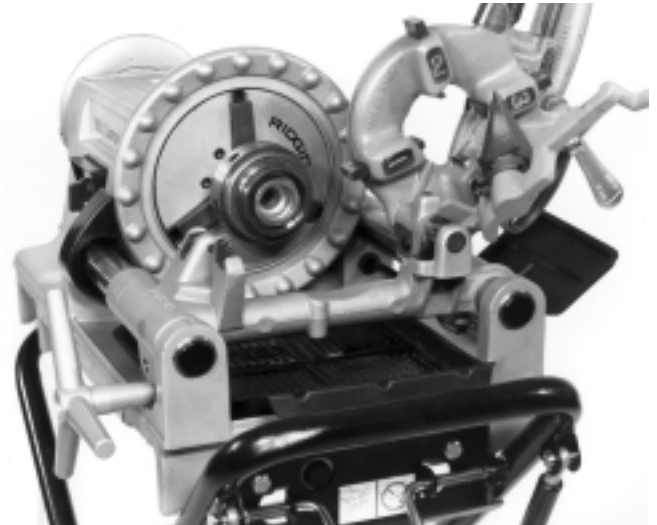

Figure 15 – Place Nipple Chuck Body in Power Drive
2. Place nipple chuck body (Figure 15) in Threading Machine chuck, gripping jaw grooves. Tighten chuck with snap spin of handwheel.